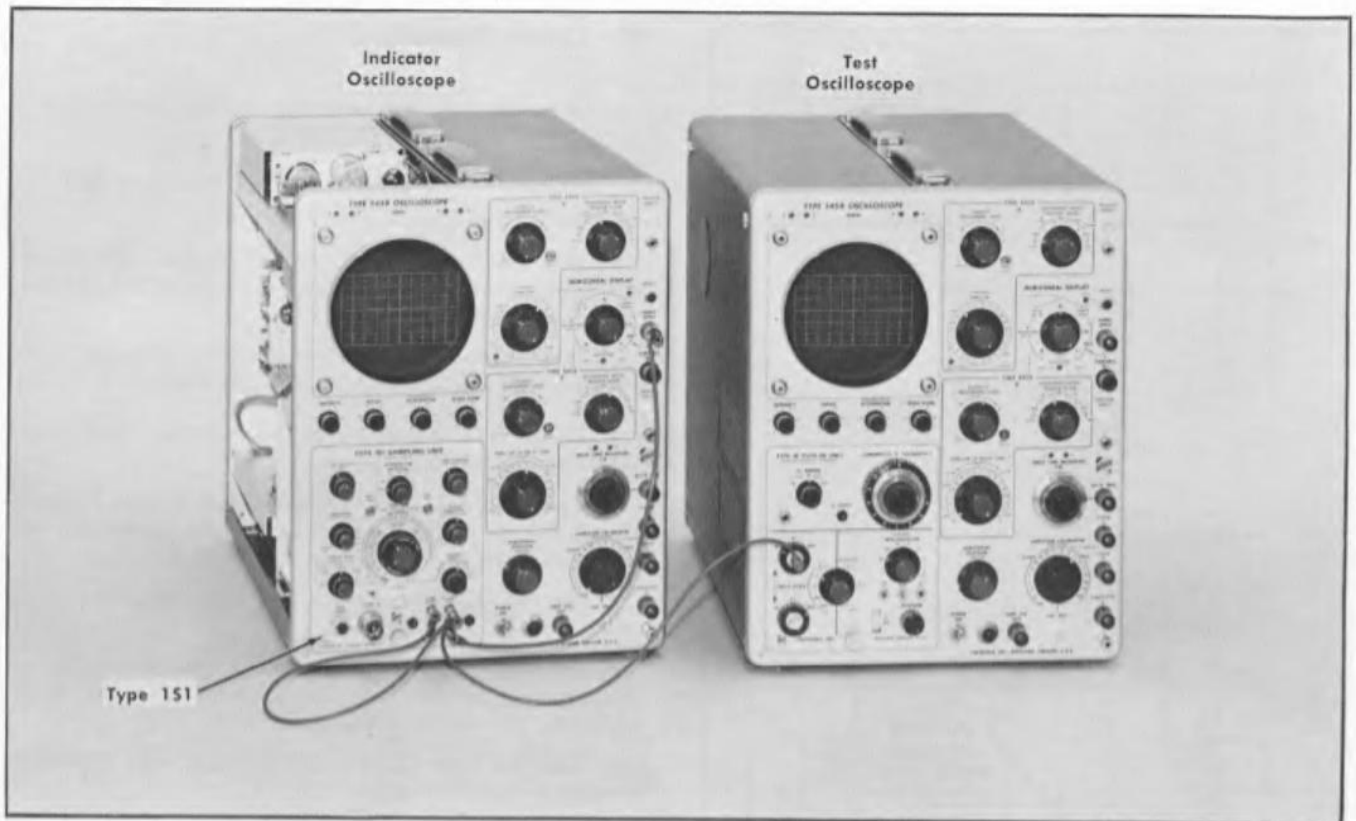

Fig. 5-59. Initial test equipment setup for step 41.
- a. Test equipment setup is shown in Fig. 5-59.
- d. Connect a banana/banana patch cord from the OFFSET OUTPUT jack to the jack at the Type 1S1 EXT HORIZ INPUT, as shown in Fig. 5-59. The patch cord from the Type 1S1 HORIZ OUTPUT jack to the indicator oscilloscope Ext Horiz Input jack should remain in place.